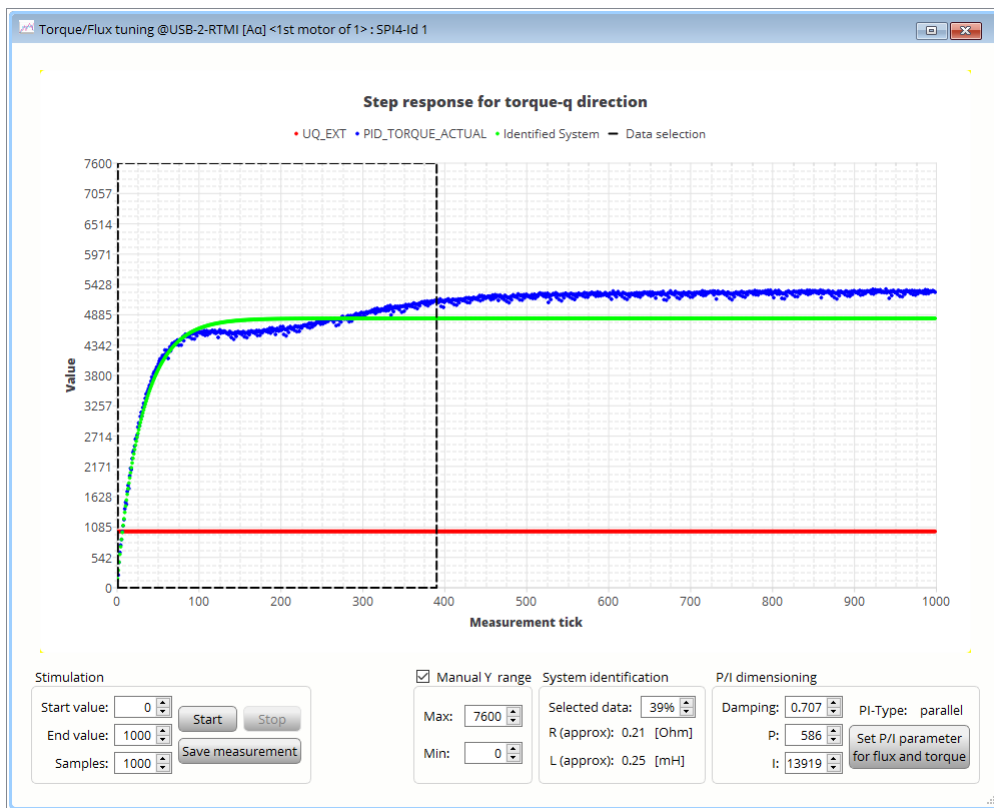

Figure 11: Step response: identification area good
- In figure 11 the step response is not fully covered. Identification area is too small.